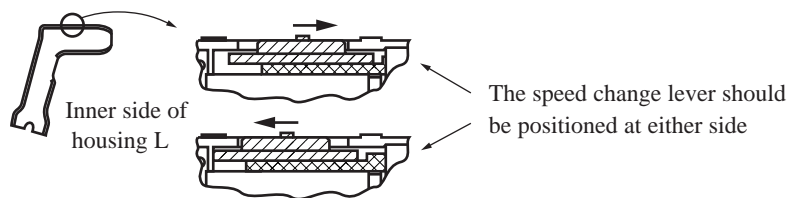

Figure 4
- 1) To assemble the one body of gear assembly and motor etc. on the housing L, place the speed change lever at the position as shown on the figure 4.